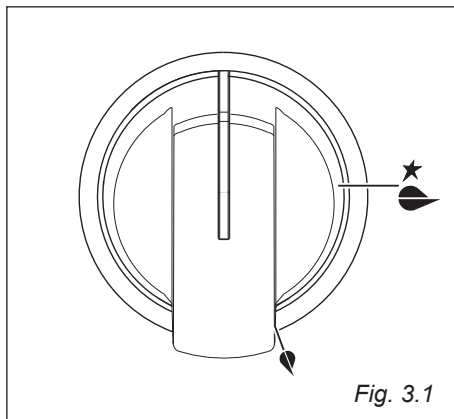
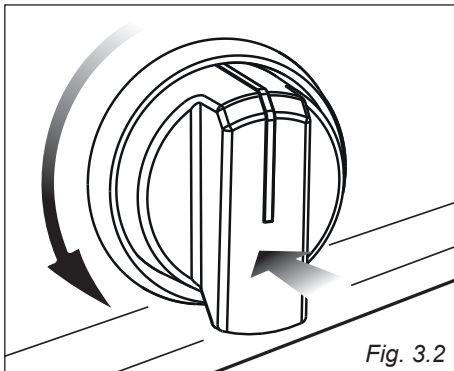

Fig. 3.1
Fig. 3.2
- Remove the 4 screws securing the cover “A” on the rear of the cooker (fig. 3.1).
- Unscrew cable clamp “D” (fig. 3.1).
- Position the U bolts onto terminal block “B” (fig. 3.1) according to the diagram in fig. 3.2.
Gas flow to the burners is adjusted by turning the knobs (figs. 3.1 - 3.2) which control the safety valves.
Turning the knob, so that the symbols printed on the knob itself (fig. 3.1) point to the symbol printed on the control panel (or vice versa), achieves the following functions:
1. Press in the corresponding knob and turn counter-clockwise (fig. 3.2) to the full flame position marked by the  symbol (fig. 3.1) and hold the knob in until the flame has been lit.